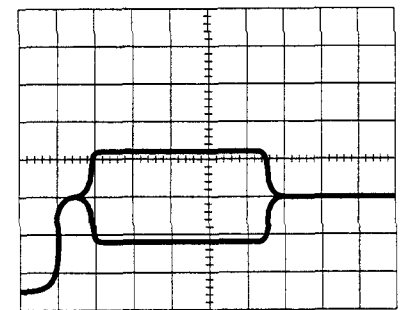

figure 5
► Lower the sweep coefficient again, to $0.5 \mu\text{s}/\text{div}$. The burst now appears on the full screen, and may be examined in detail (Figure 5). Note that the sweep start position remains unchanged with respect to the signal. It can be further fine-tuned by adjusting the DELAY control.